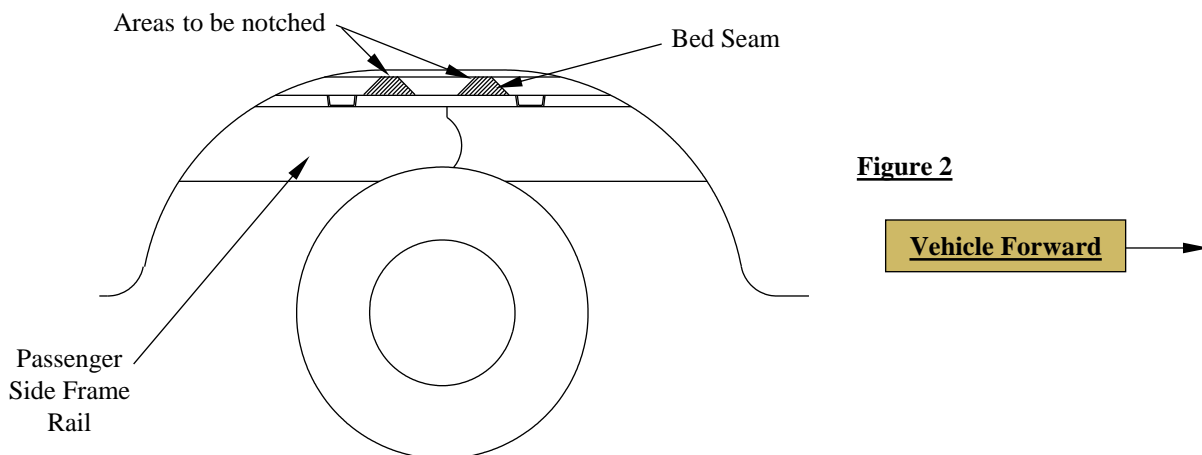

Figure 2
3. **Positioning the cross members by notching the bed seam:** Using a saber saw, cut a notch in the bed seam on the passenger's side of the vehicle, between the vehicle frame and the bed as shown in Figure 2. Slide the forward cross member through the notch and above both frame rails. Slide the rearward cross member through the notch cut in the bed seam and above both frame rails.